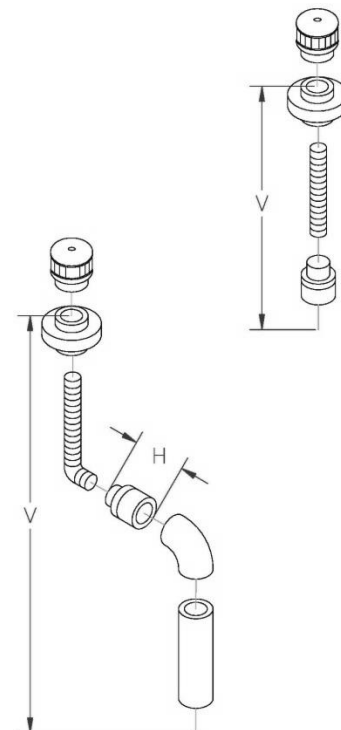

Figure 18 – Existing Chimney Venting Options
- 🔥 All termination caps must be no less than 18" (457mm) horizontally from any roof or vertical surface. See Figure 18.
- 🔥 The termination must fall within the area shown in Figures 18 & 20.
- 🔥 All horizontal terminations must also comply with the clearance specifications to adjacent structures outlined in Figures 18 and 20.